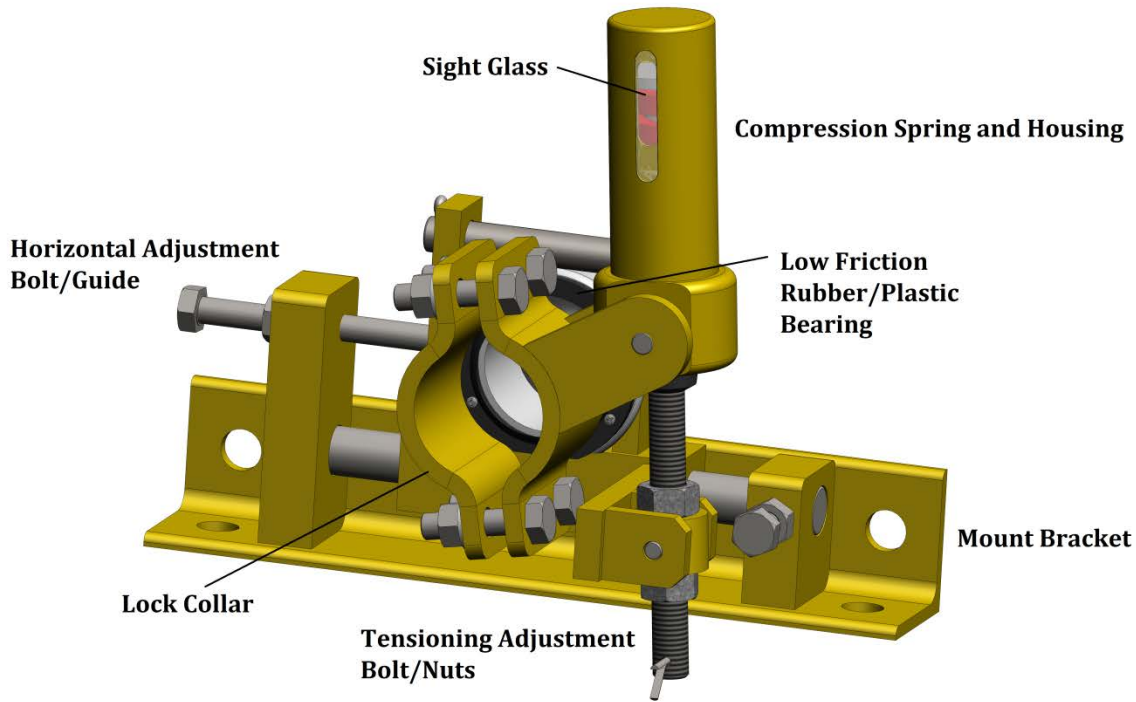

Figure 2
3. Loosely bolt far side mount and tensioner to chute wall. Loosen lock collar (Figure 2)
4. Loosely bolt near side mount and tensioner to chute wall. Loosen lock collar (Figure 2).
- b) Slide pole weldment (Item #1) into chute wall holes and through the plastic bearing in each tensioner/mounting bracket (Figure 2 and Figure 5)
- a) Ensure the blade tip is in contact with the head pulley across the full width of the blade. Slight adjustments to line the blade tip up with the belt surface can be done by adjusting the pole weldment position with the horizontal adjustment bolt (Figure 2) on each tensioner/mounting block assembly.